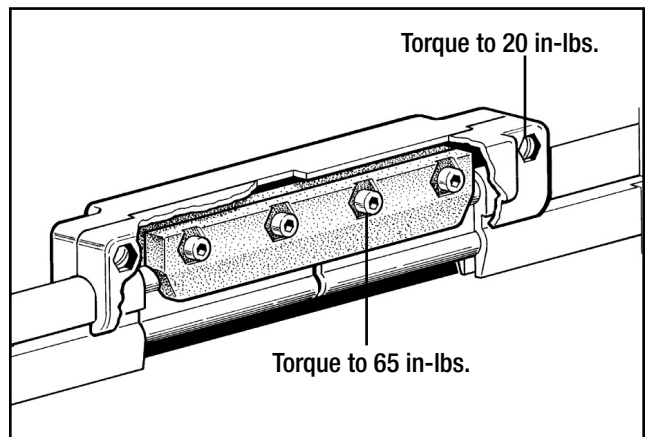

Figure 23-2 Joining Bolted Conductors
- B. For joining bolted conductor bars, see **Figure 23-2**.